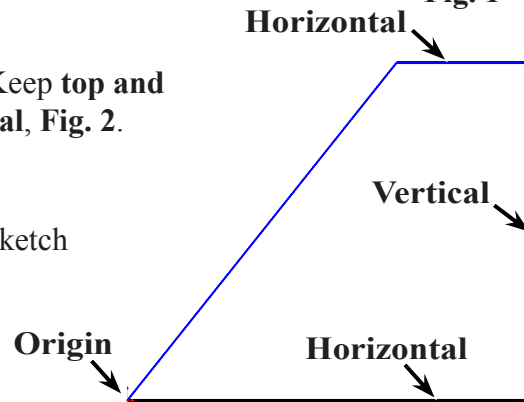

Fig. 2
- Step 3. Click **Line** (L) on the Sketch toolbar.
- Step 4. Starting at the Origin sketch the V stab. Keep **top and bottom lines horizontal** and **right side vertical**, **Fig. 2**.